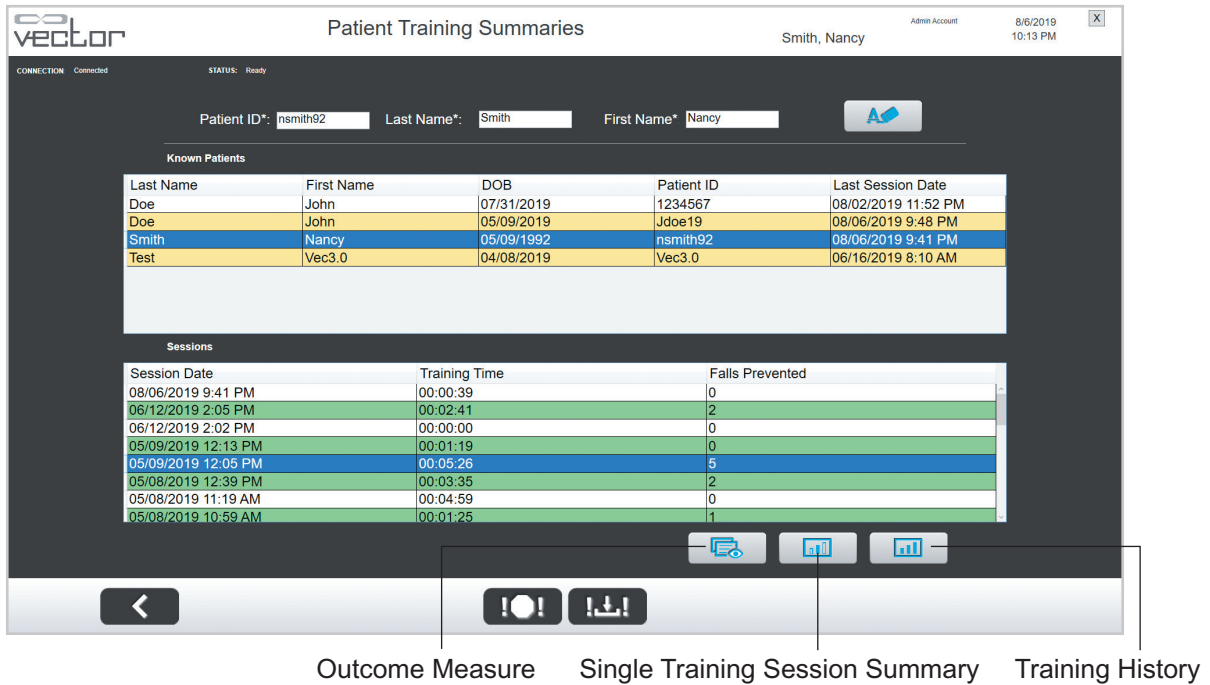

Figure 8-5: Patient Training Summary
- 3. To view data from a single training session, select the session date from the list and press the Single Training Session Summary button. See Figure 8-5.